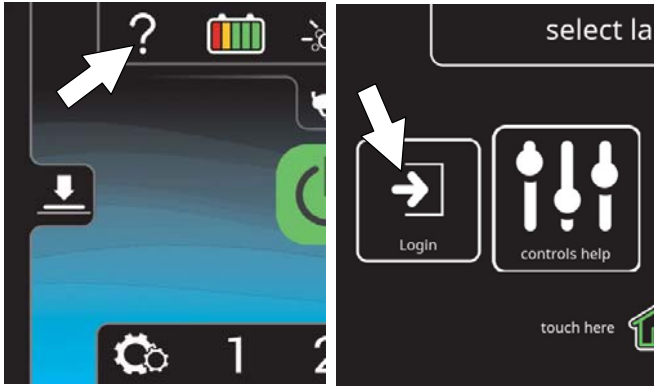

FIG. 166
2. Press the help button and log into the machine as supervisor mode (Figure 166). See *Entering the Supervisor Mode*.